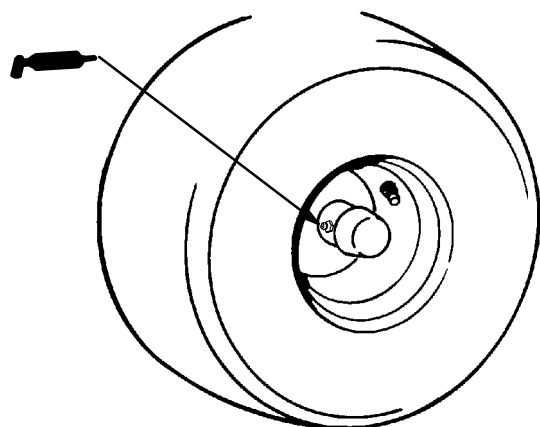

Figure 22
1. Lubricate the wheel bearings (Fig. 22).